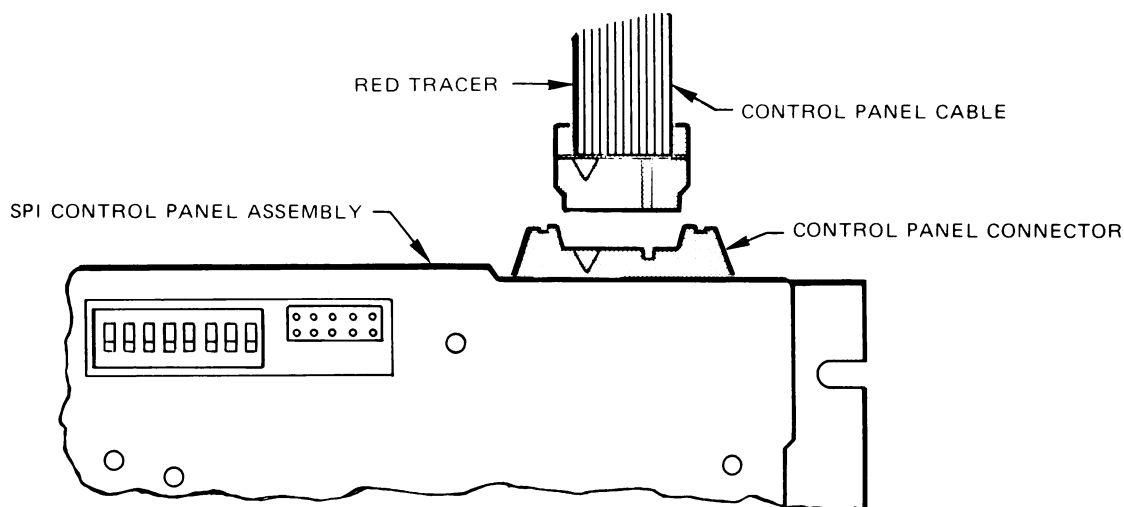

Figure 4-11. SPI CONTROL PANEL CABLE
- 5) Note carefully how the control panel cable connector is oriented (see Fig. 4-11). This connector is not keyed, and can easily be installed backwards. (This will not damage the machine, but will cause improper operation.)